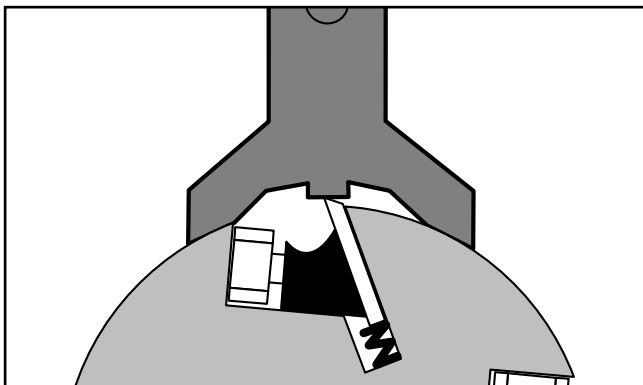

Figure 28. Jig placement on cutterhead.
4. Place the jig over the knife as illustrated in **Figure 28**.